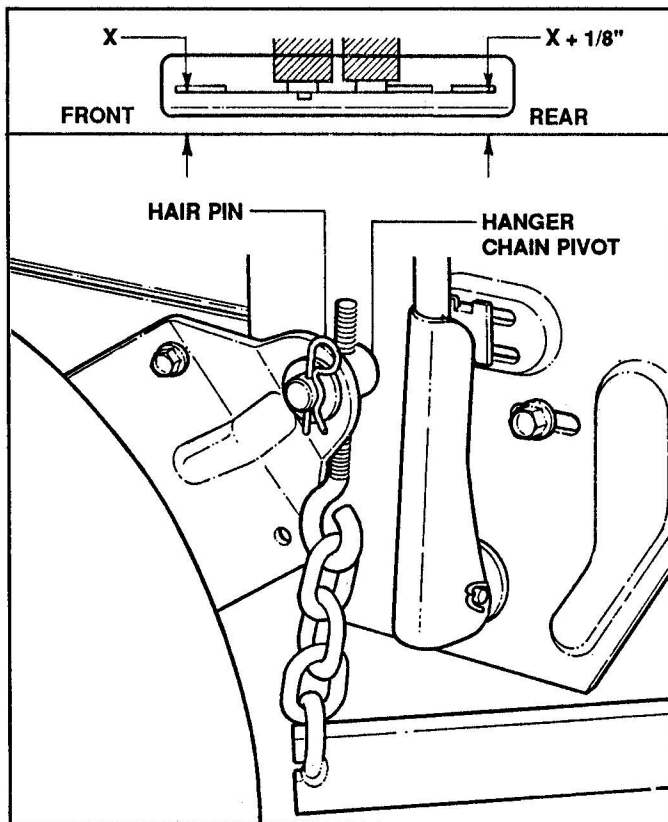

FIGURE 4.10
- (b) Turn each hanger pivot the same number of rotations on the eye-bolt to raise or lower the rear of the deck. See Figure 4.10.